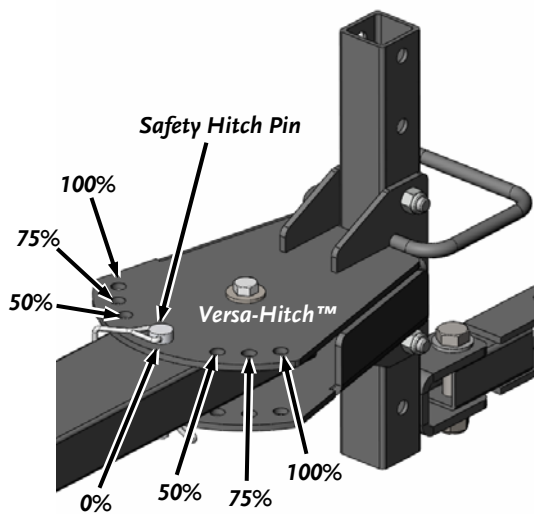

Figure 19
1. Remove the Safety Hitch Pin (**Figure 19**) from the Versa-Hitch™ and pull the Out-Rigger™ Tow Bar to the position that matches the Tow Bar position on the Deck. Re-attach the Safety Hitch Pin.